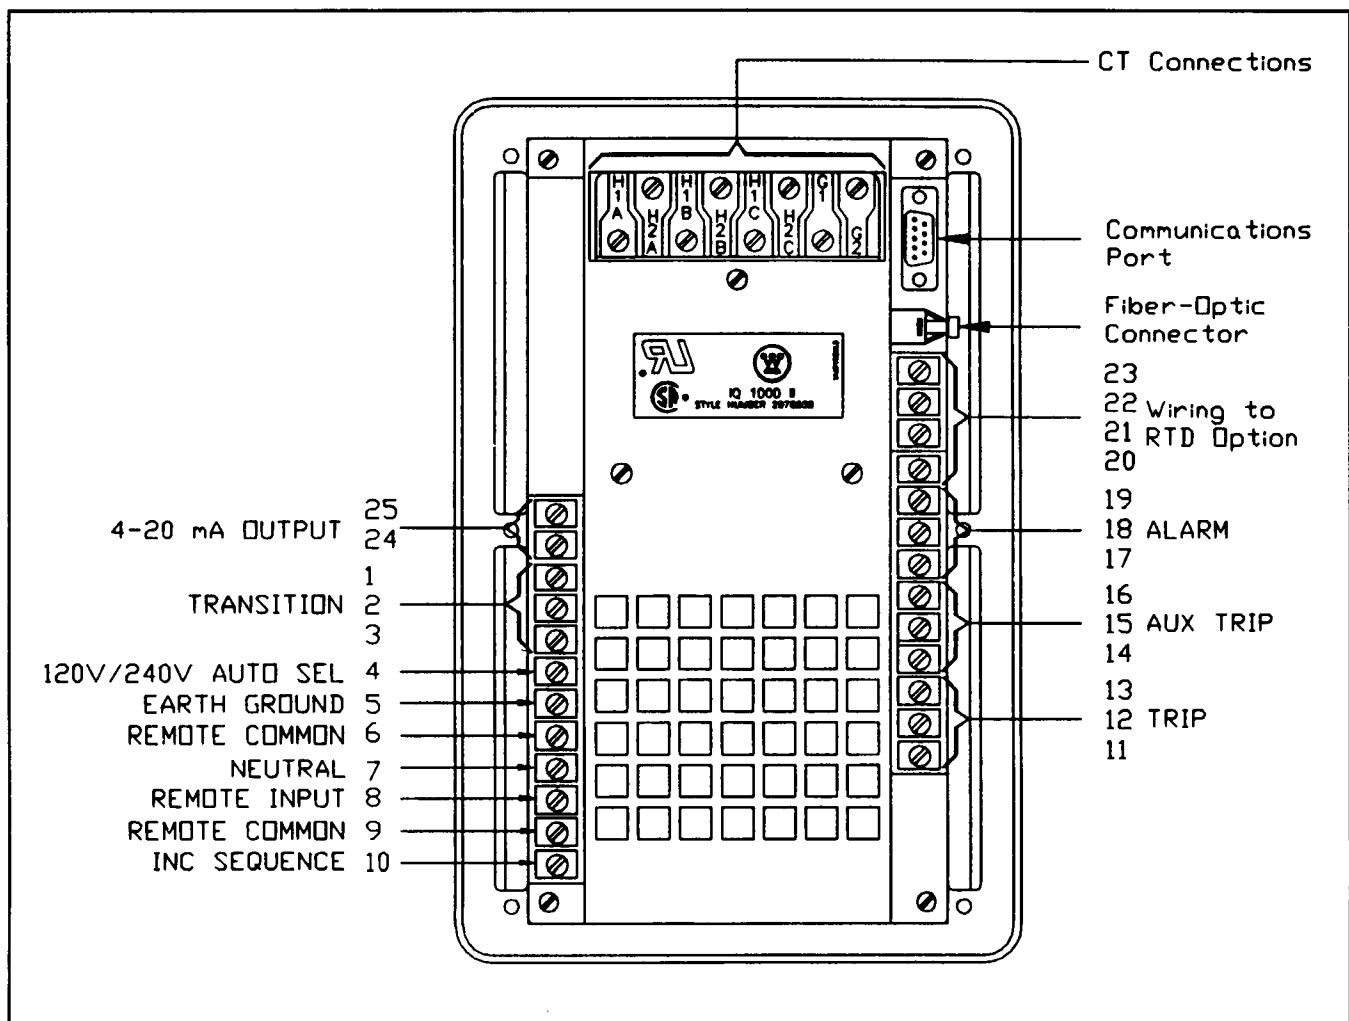

Figure 2.2 — Rear Panel
**2.1.2 Rear Access Area** — The rear of the IQ-1000 II is normally accessible from the rear of the mounting cabinet's door (see Figure 2.2). All wiring connections to the unit are made on the back of the IQ-1000 II, as follows: